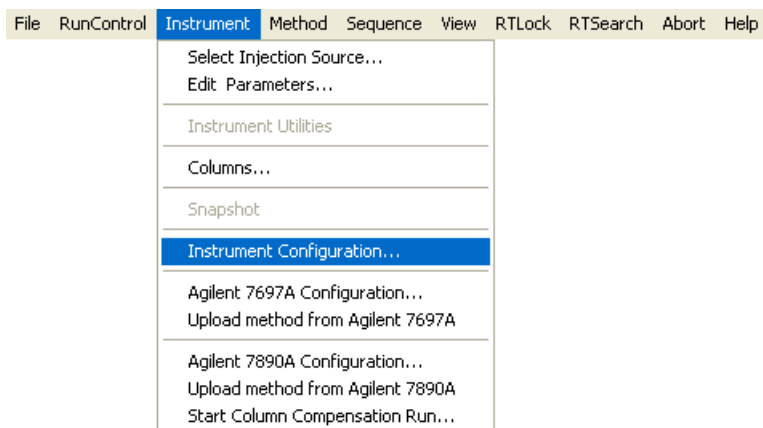

**Figure 5** Accessing Instrument Configuration
- 2 Select **Instrument > Instrument Configuration...** from the data system's top menu (Figure 5).